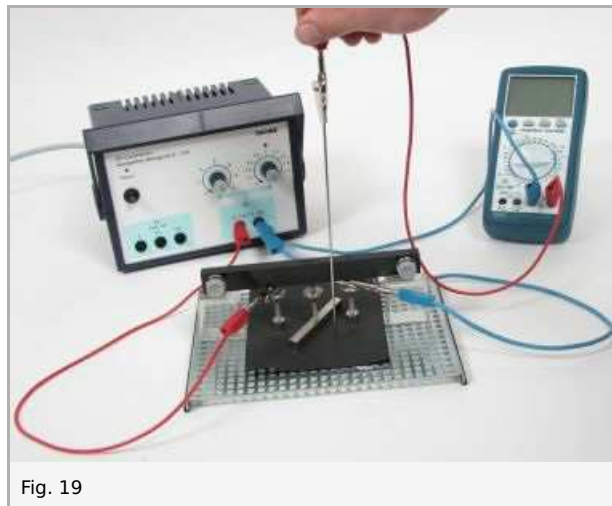

Fig. 19
- Find points on the carbon paper, which have the same electric potential. For this purpose scan the carbon paper with the tip of the knitting needle and mark the points as small circles with a pencil (Fig. 19). Start with a value of 1 V and continue in steps of 1 V. Mark eight points for each value.